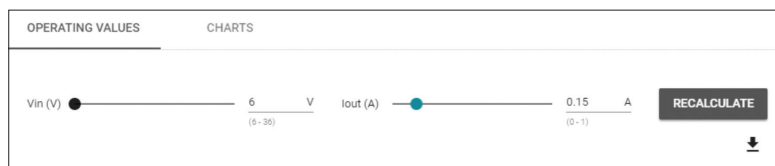

Figure 3.
- In the '**Modify Operating Point**' window **Figure 3**, enter 6V for  $V_{IN}$  and 0.15 for  $I_{OUT}$  and **Recalculate**.